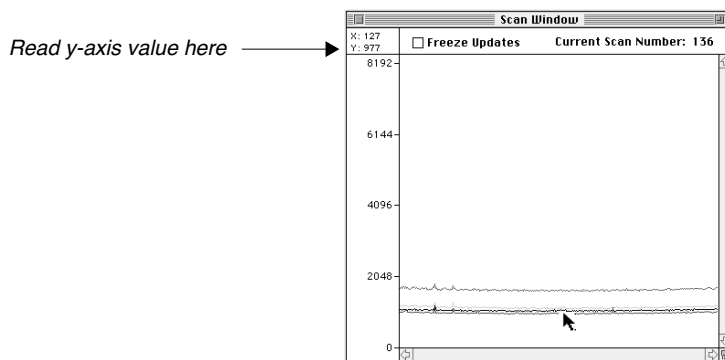

Figure 3-12. Cursor positioned correctly to measure PMT gain
2. Position the cursor so the tip of the arrow just touches a flat section of the lowest scan line (usually the blue line), as in Figure 3-12.